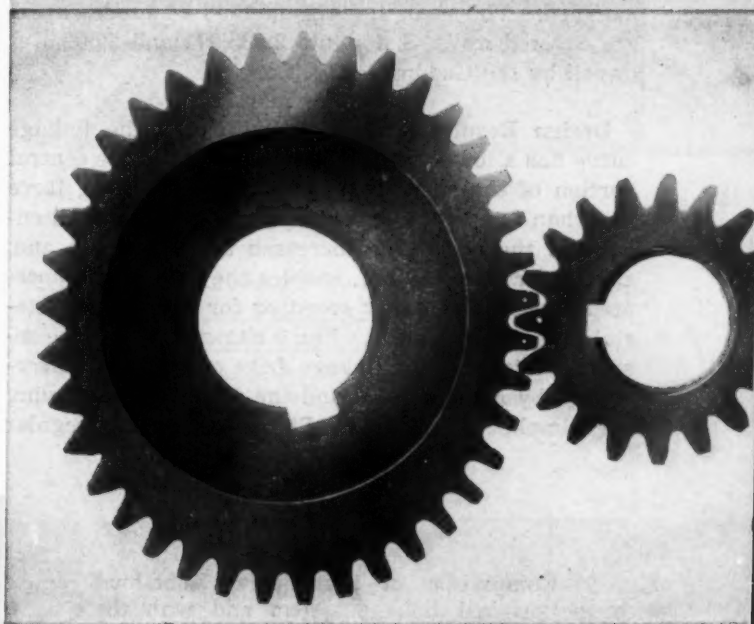

Fig. 5—Plots of relationships involved in the determination of optimum inertia characteristics
Although uniform acceleration minimizes the inertia loads, some further measures must be taken to eliminate the shock loading that would otherwise occur in the instant change from positive to negative acceleration. In such a high inertia system it is mandatory that "jerk"—the rate of change of acceleration—be maintained at a finite value. Specifying a constant finite value for jerk produces a sloped straight-line acceleration region and a second-degree (parabolic) transition in the velocity curve, as shown in Fig. 5.
This concept was developed in conjunction with a much simpler linkage, Fig. 6, than that from which the curves of Figs. 3 and 4 were derived. As shown by the linkage velocity curve in Fig. 5, developed for a low kick ratio application, the simplified linkage yielded characteristics that are a reasonable first approximation of the ideal velocity curve based on the principles just discussed. The slope of the ideal veloc-
**Design Results:** As shown in Fig. 5 the linkage curve has a low kick ratio and the slope of the central portion of the curve represents an accelerating force less than is acceptable for a final design. Straightening out the curve has increased the kick ratio and, as the curve is laid out, enables the drive to be operated at either a higher speed or for conveying material up a steeper grade. Fig. 9 shows comparative results obtained with a linkage drive of the type characterized by Figs. 3 and 4 and the new drive employing the simplified linkage of Fig. 6 with the irregular